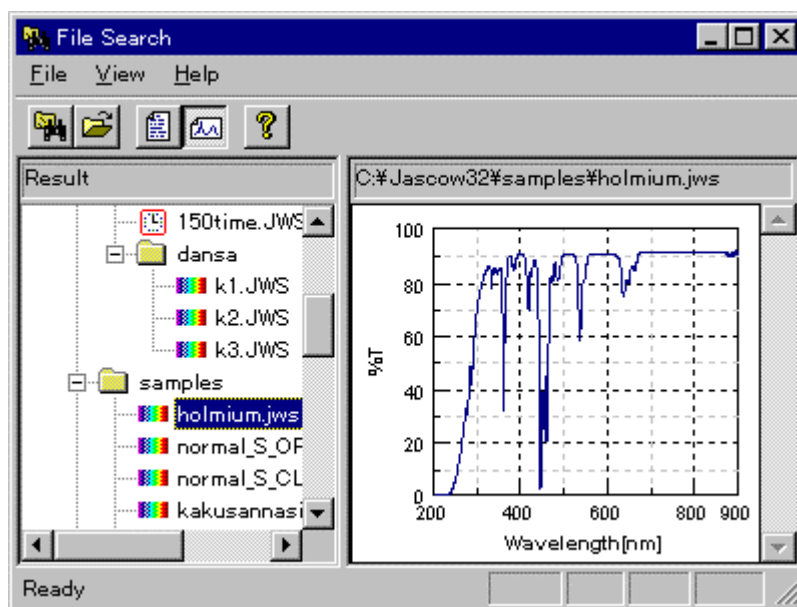
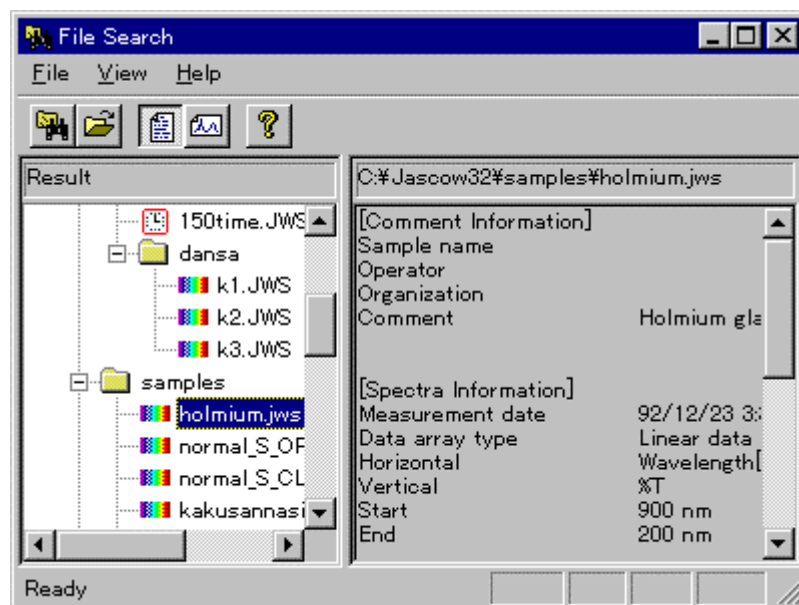

Fig. 3.4 [File Find] dialog box (spectrum preview)
Fig. 3.5 [File Viewer] dialog box (data information)
- (4) Click the desired data file in the filename display area. A preview of the spectrum or data information contained in the file is displayed as shown in Fig.3.4 and Fig.3.5.
*Note: In Fig.3.4, a spectrum is displayed in the spectrum/data information display area. When [Information] is selected using the  button, the spectrum is rewritten with data information.*